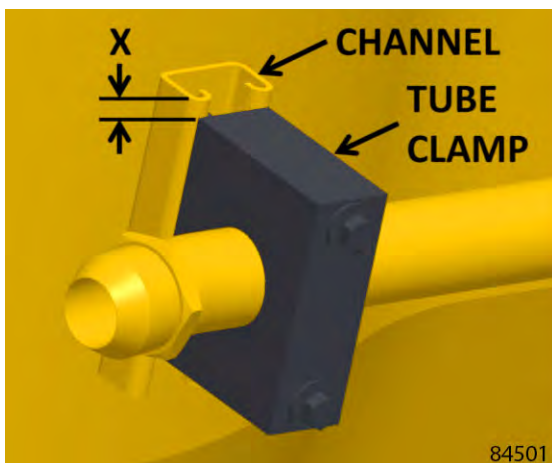

FIGURE 3-27. CLAMP POSITION
8. Dimension X should be approximately 6.35 - 12.7mm (0.25 - 0.50in) as shown in Figure 3-27.